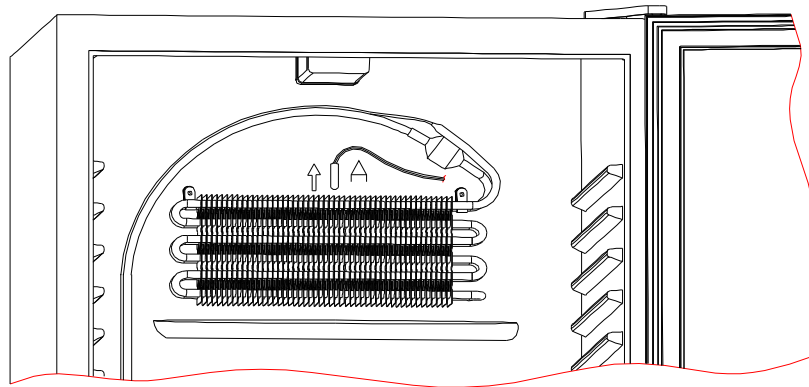

Fig.28
a. One is that the evaporator sensor is plugged into the fin of evaporator. Remove the air duct board to access the sensor plug (A) and unplug in the direction of the arrowhead. See (Fig.28), then unplug the other end of sensor from the X11 socket of the control panel, and replace it. See (Fig.7).